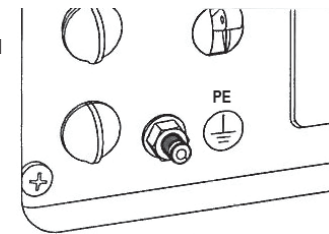

Figure-11 Grounding the Generator
- The generator is equipped with an equipment ground connecting the generator frame and the ground terminals on the AC output receptacles. This allows the generator to be used as a portable without grounding the frame of the generator. See Figure-11.